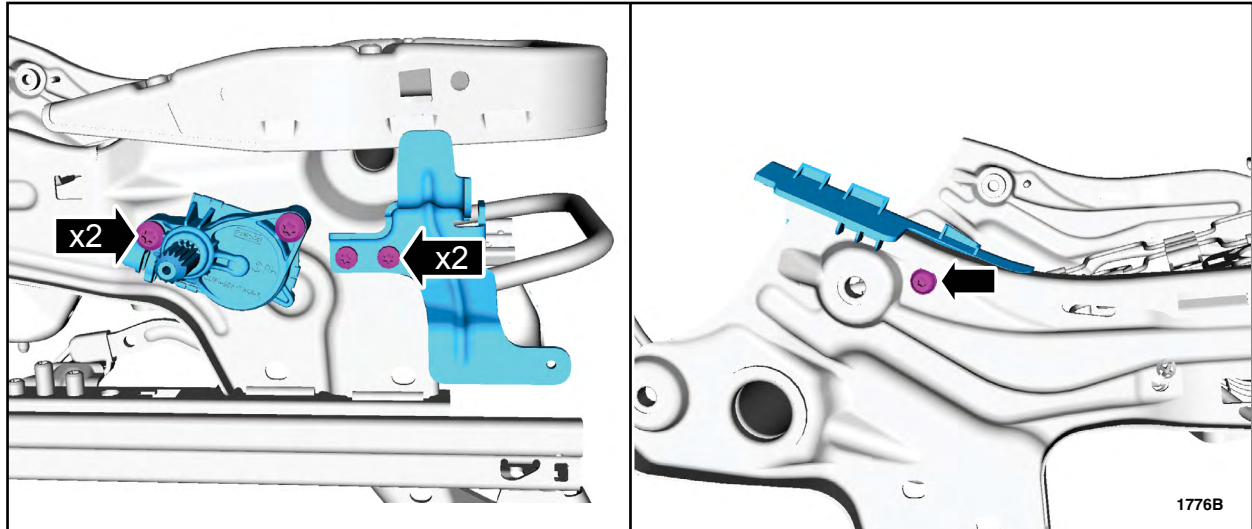

FIGURE 1
A. Transfer the lumbar actuator, forward outboard side shield bracket, and upper outboard side shield bracket. See Figure 1.